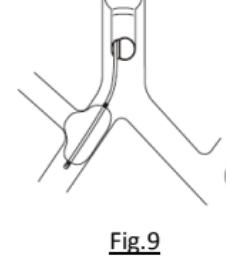

Fig.9
- For the right thoracotomy, position and inflate the blocker cuff so as to slightly herniate it into the upper lobe bronchus. This will help fix the blocker cuff in position and securely block the right main stem bronchus (Fig.9).